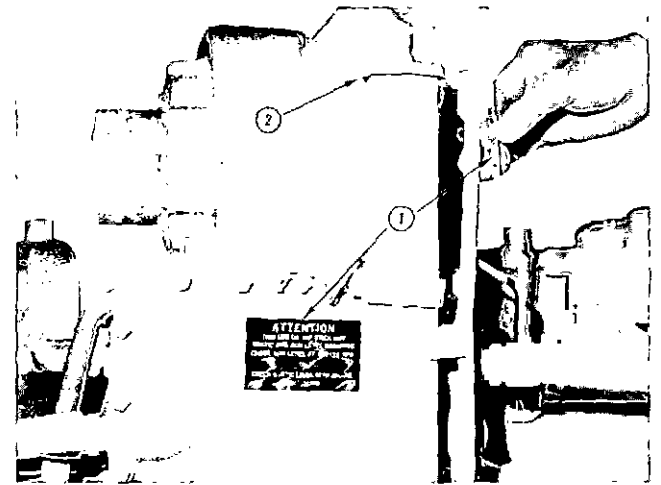

Fig. 2-1. Checking engine oil level
**Note:** Most dipsticks have dual marking(s), with high- and low-level marks; static oil marks on one side, engine running at low idle speed marks on opposite side. Be sure to use proper scale. Fig. 2-1.